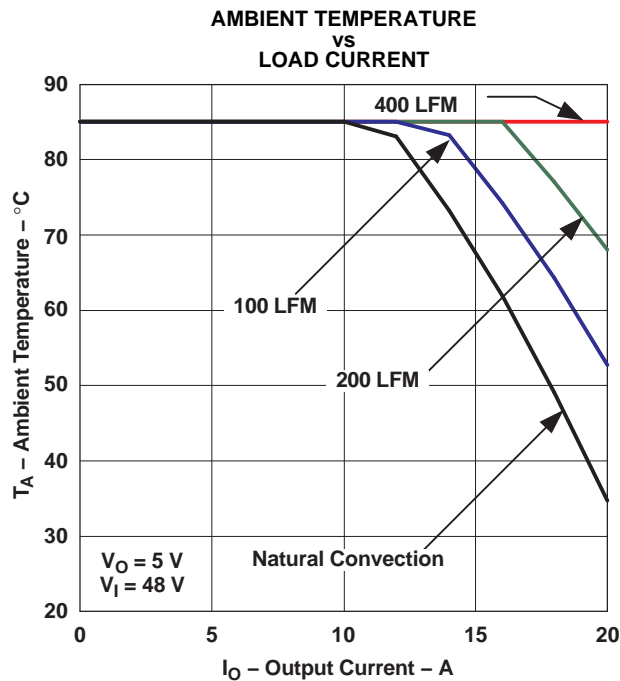

Figure 12.
- (2) The temperature derating curves represent operating conditions at which internal components are at or below manufacturer's maximum rated operating temperature. Derating limits apply to modules soldered directly to a 100-mm x 100-mm, double-sided PCB with 2 oz. copper. For surface mount packages, multiple vias (plated through holes) are required to add thermal paths around the power pins. Please refer to the mechanical specification for more information. Applies to Figure 12.